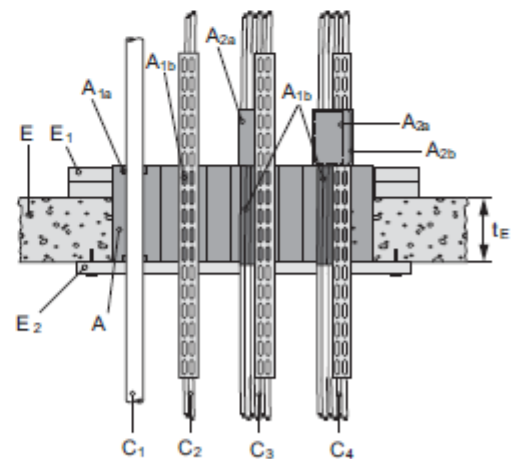

Figure 12: floor penetration
Penetrating services (C₁) with or without support tray within the seal, see Figure 12 of the ETA.
Penetrating cables (C₂, C₃, C₄) with or without support tray within the seal, see Figure 12 of the ETA.
<ul style="list-style-type: none"> – $\varnothing \leq 16$ mm, wall thickness ≥ 1 mm, arranged linear, with or without cables, with or without cable supports, minimum distance to each other = 0 mm – Penetrating services (C₁) with or without support tray within the seal, see Figure 12 of the ETA
<ul style="list-style-type: none"> – Hilti Firestop Blocks CFS-BL (A) of thickness $t_A \geq 200$ mm, flush with the soffit of the floor (E); aperture framing or beading (E₁) according to Annex C.1.2 of the ETA. – Metal pipes (C₁), see Figure 12 of the ETA. – Metal pipes with mineral wool insulation, minimum density 85 kg/m³, minimum thickness 20 mm (up to $\varnothing 54$ mm) or 30 mm ($\varnothing > 54$ mm) – Additional insulation, mineral wool mat wrapped around the service, minimum density 85 kg/m³, minimum thickness 20 mm (up to $\varnothing 54$ mm) or 40 mm ($\varnothing > 54$ mm) over a length of 300 mm (up to $\varnothing 54$ mm) or 500 mm ($\varnothing > 54$ mm)
<ul style="list-style-type: none"> – Hilti Firestop Blocks CFS-BL (A) of thickness $t_A \geq 200$ mm, flush with the soffit of the floor (E); aperture framing or beading (E₁) according to Annex C.1.2 of the ETA. – Metal pipes (C₁), see Figure 12 of the ETA. – Metal pipes with flexible elastomeric foam insulation according to EN 14304, thickness 8,5 to 43 mm. – Additional insulation, Armaflex mat wrapped around the service, thickness 19 mm, over a length of 300 mm or 500 mm
<ul style="list-style-type: none"> – Hilti Firestop Blocks CFS-BL (A) of thickness $t_A \geq 200$ mm, flush with the soffit of the floor (E); aperture framing or beading (E₁) according to Annex C.1.2 of the ETA. – Metal pipes (C₁), see Figure 12 of the ETA. – Metal pipes with flexible elastomeric foam insulation according to EN 14304, thickness 8,5 to 43 mm. – Additional insulation, mineral wool mat wrapped around the service, thickness 30 mm, over a length of 500 mm
- Hilti Firestop Blocks CFS-BL (A) of thickness $t_A \geq 200$ mm, flush with the soffit of the floor (E); aperture framing or beading (E1) according to Annex C.1.2 of the ETA.
- Metal pipes (C1), see Figure 12 of the ETA.